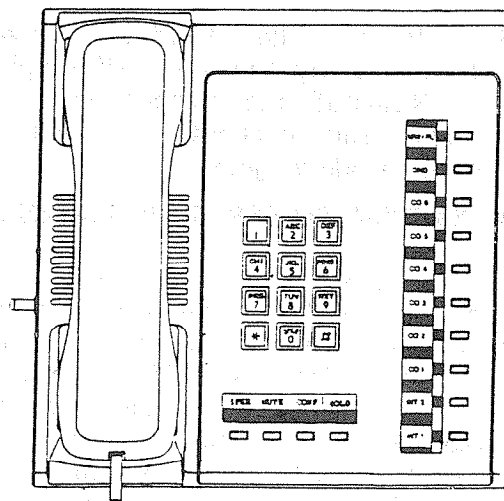

FIGURE 24
10.01 EKT functional check—the following procedures verify the basic system functions and confirm the proper functioning of the EKT itself. Refer to Figure 24, and perform the following test procedure at each station. Begin with Ext. 10.